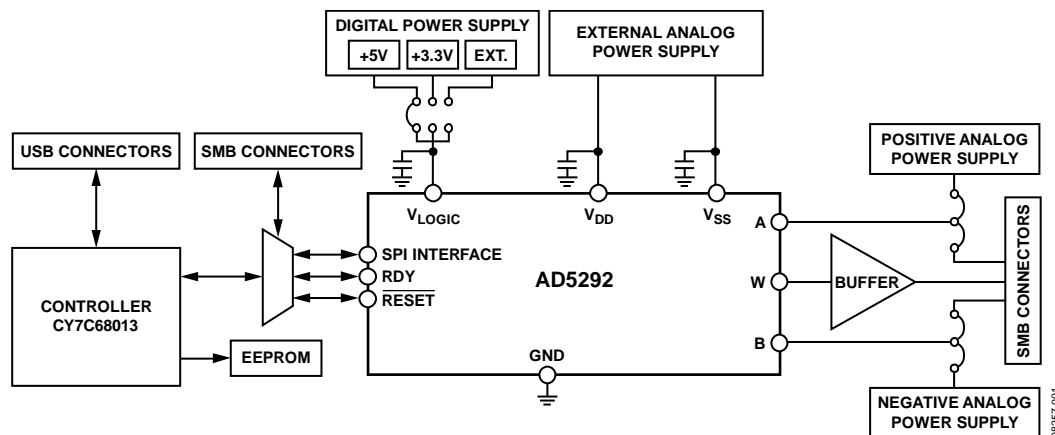

Figure 1.
2. If the PC is not connected to the board via the USB port, a message box advises you, as shown in Figure 1. Check the cable between the PC and the board, and click **Retry**. If the cable is connected, exit the program and try to reinstall it.